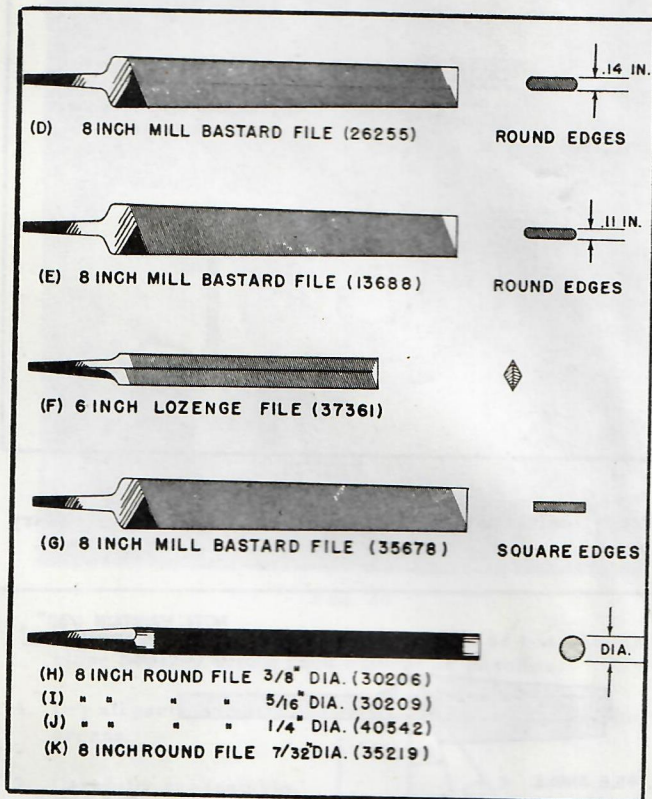
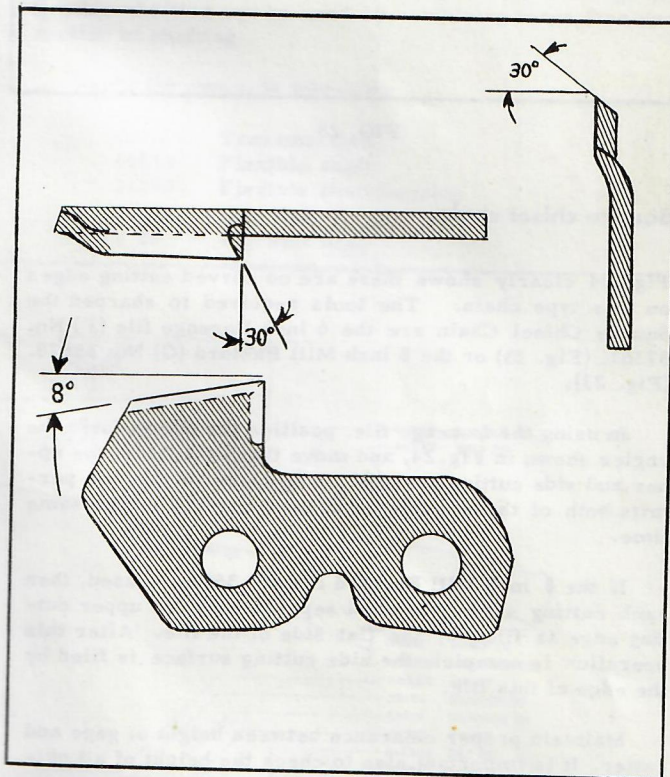

FIG. 23
FIG. 24
The sharpening angles shown in the top view and side view of Fig. 23 can be obtained with the Mall Portable Electric Chain Sharpener, using the thin grinding wheel. Be sure the chain is clamped firmly and that your set-
For best results and a rapid sharpening job use the Mall Portable Electric Chain Sharpener and take careful note of the sharpening angles shown in Fig. 24. Remember that the side cutting edges require the thin grinding wheel and the top edges the thick grinding wheel.
Fig. 24 clearly shows there are no curved cutting edges on this type chain. The tools required to sharpen the Square Chisel Chain are the 6 inch Lozenge file (F) No. 37361, (Fig. 23) or the 8 inch Mill Bastard (G) No. 35678. (Fig. 23).
In using the Lozenge file, position the file to form the angles shown in Fig. 24, and move the file against the upper and side cutting surface. The shape of this file permits both of these surfaces to be sharpened at the same time.
For hand filing the 1/4-inch diameter Round file (J) No. 40542 (Fig. 23) can be used. Use only the files recommended as other sizes will not give the desired results. Rinse chain in kerosene or oil after filing to re-